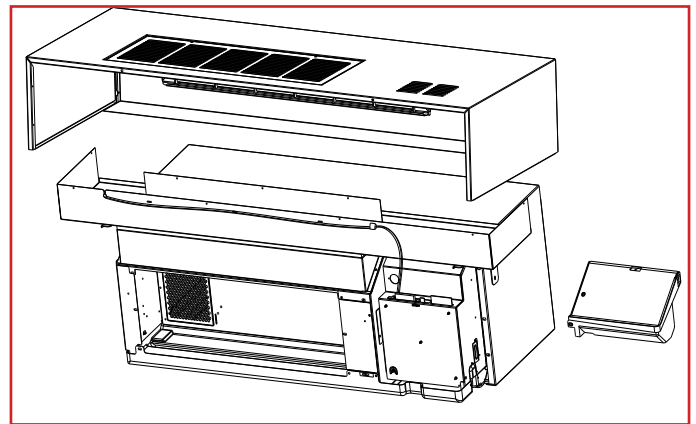

Figure 10
9. Remove the six screws from the top of the hydronic top. Lift the hydronic top straight up and set aside along with the six screws (Figure 10).